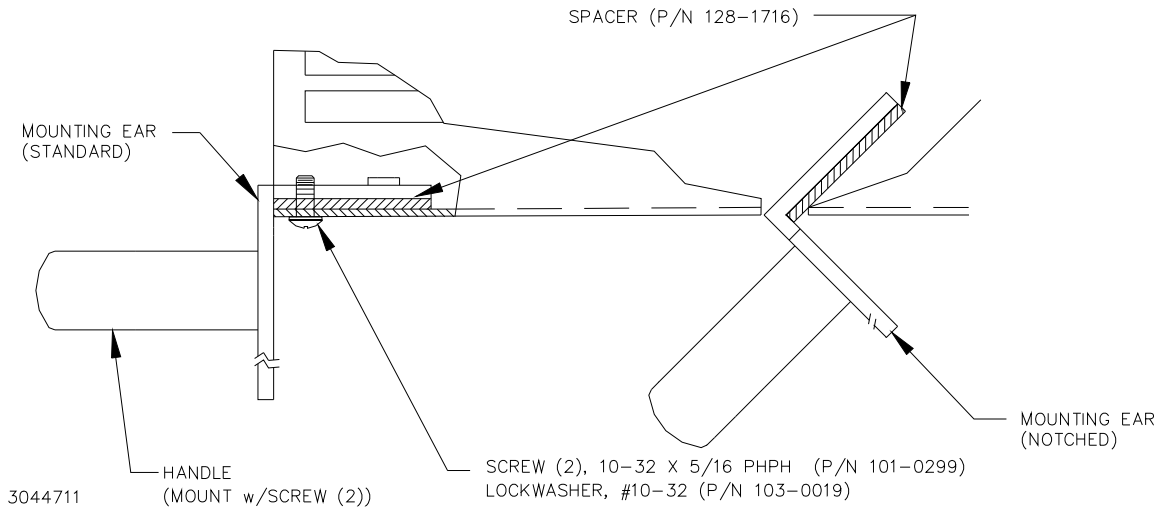

FIGURE 2-8. MOUNTING EAR INSTALLATION
If mounting ears are removed, or optional mounting ears are purchased to allow installation in a different size rack (see Table 1-2), install each standard (flush) mounting ear on the rack adapter cover as shown in Figure 2-8). Attach mounting ear to cover using the four screws provided.
Installation of the setback mounting ears is similar to the above procedure, except the setback flange is first inserted in the slot on the rack adapter cover, then rotated 90 degrees as shown in Figure 2-8).
- **Wye Power** - Connect a separate wire pair from each Lx/Nx pair on the rack adapter to line and neutral terminals of the power source, using successive line terminals (e.g., A-N, B-N, C-N) (see Figure 2-8)